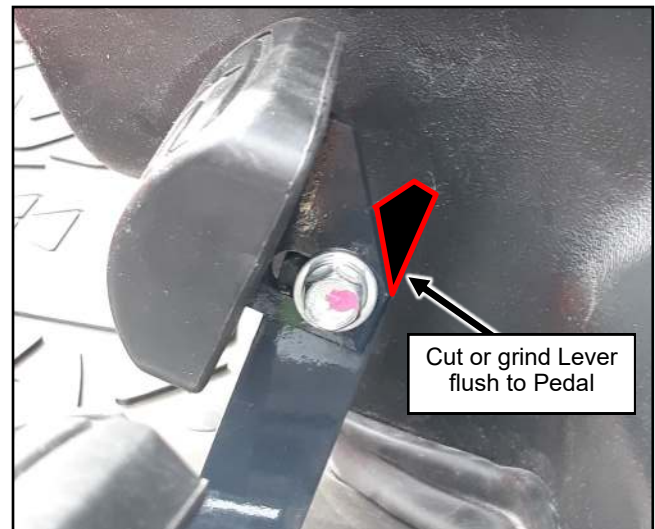

Fig. 1.10 (Trim Accelerator Pedal Lever)
- 1.10 Per Figure 1.10, cut or grind the end of the Accelerator lever flush with the front edge of the bracket on the Accelerator pedal.